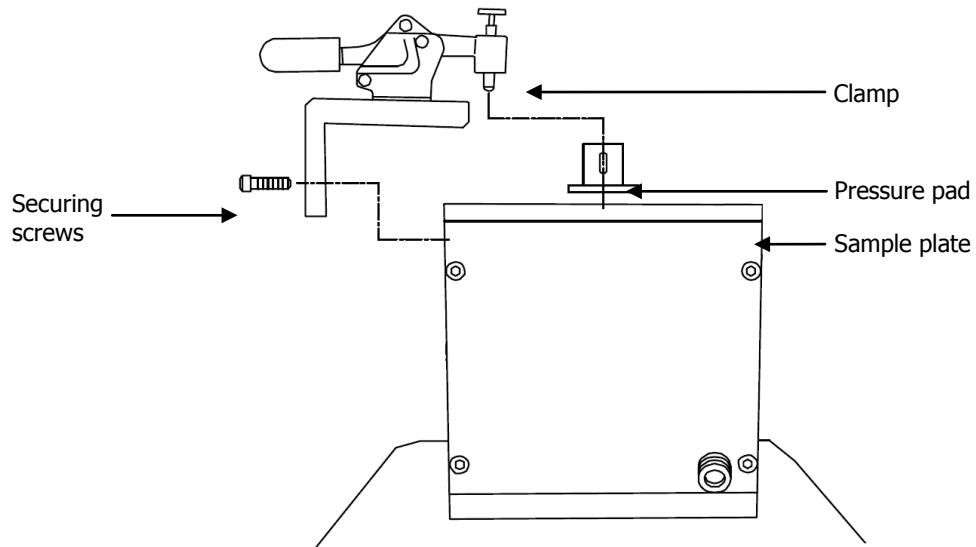

Figure 12 Installing the pressure clamp
1. Attach the clamp to the body of the HATR using the two screws provided (Figure 12).